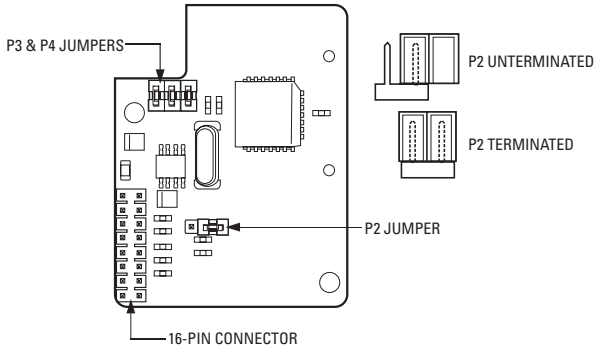

Figure 18. TXB-V Termination and Baud Rate (Bottom View)
3. Set the P2 jumper on the TXB-V to the proper termination setting (refer to Figure 18 on page 19). Note the following: